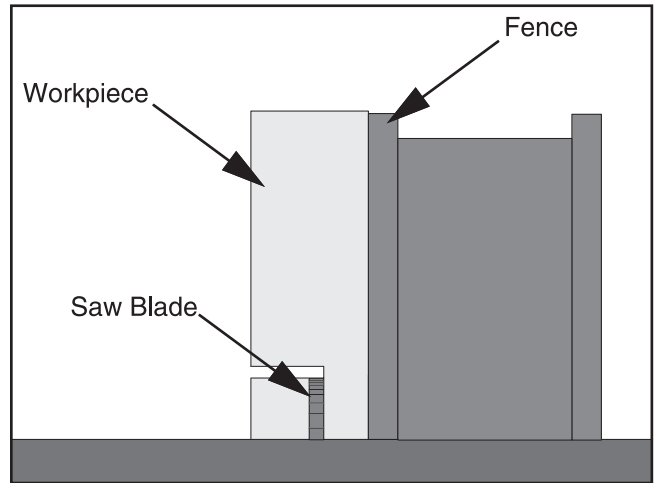

Figure 54. Second cut to create a rabbetting.
7. Rotate the workpiece as shown in **Figure 54**.